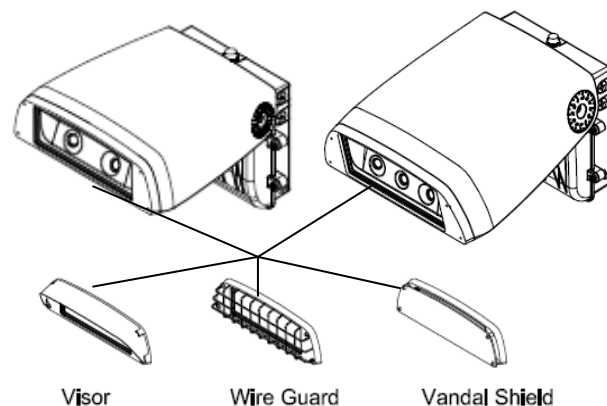

Fig.4
3. Optional: Visor, Wire Guard, Vandal Shield (Fig. 4)